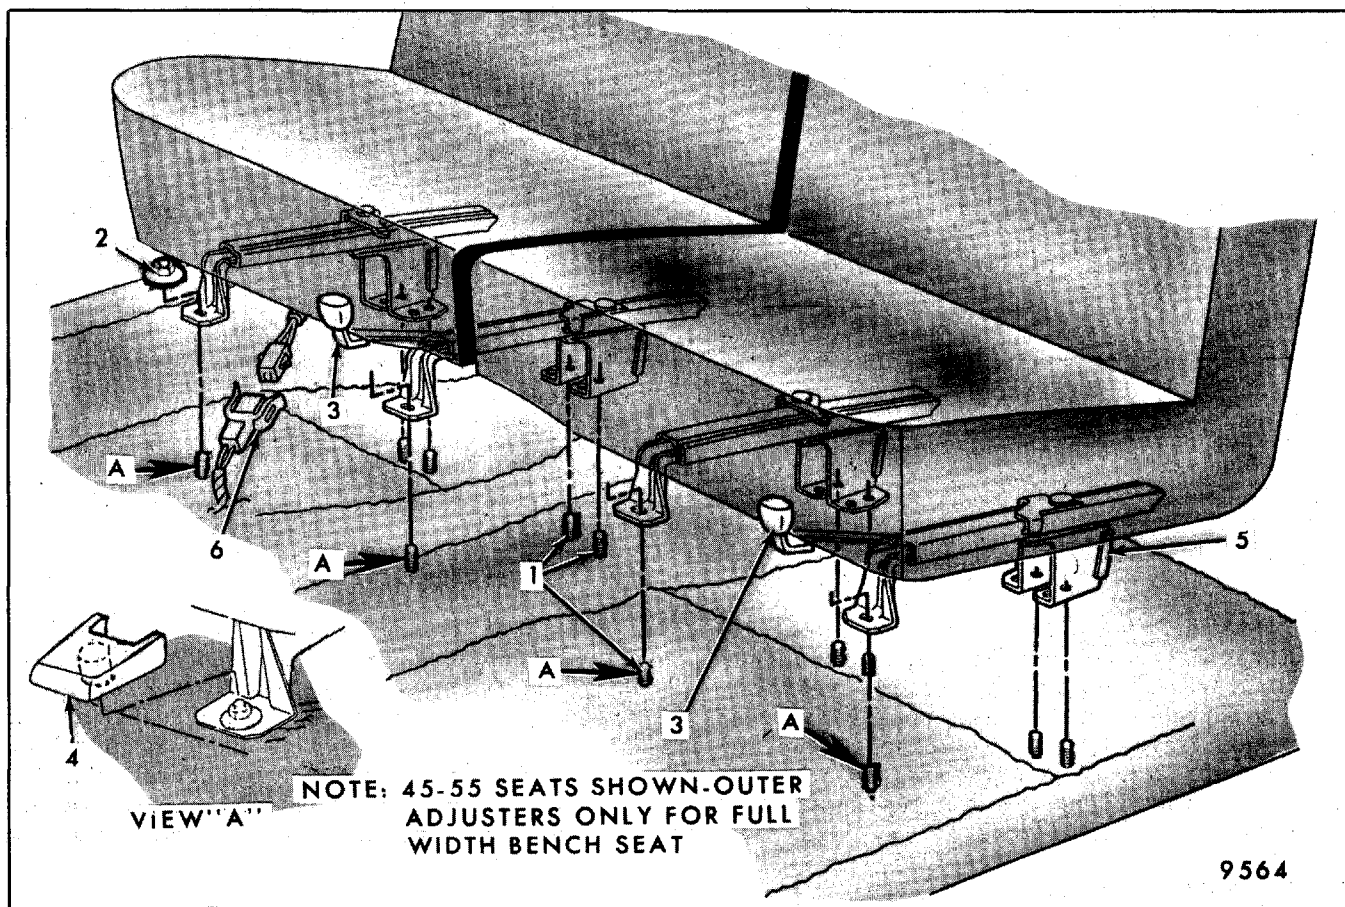

Fig. 9-11 - "B and C" Body Manually Operated Seats - 45-55 Seat Shown - See Note for Full Width Seat
1. Figure 9-11 - "B and C" Body Manually Operated Seats